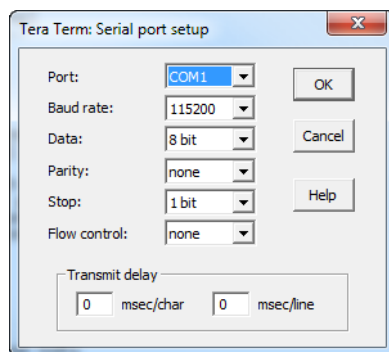

Figure 3-5: Configuring Serial Console Settings in Tera Term
4. Configure the port settings for the Console connection as shown in the following table and Figure 3-5.